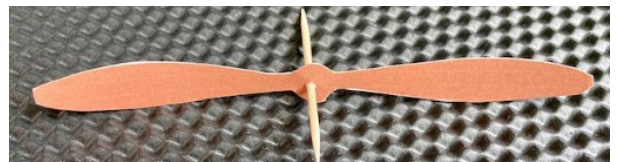

Figure 5. Push the toothpick through the hole in the center of one of the rotor blades.
6. Push a toothpick through the hole in the center of one of the rotor blades. The rotor blade should be about 3/4 of an inch from the end of the toothpick as shown in Figure 5.